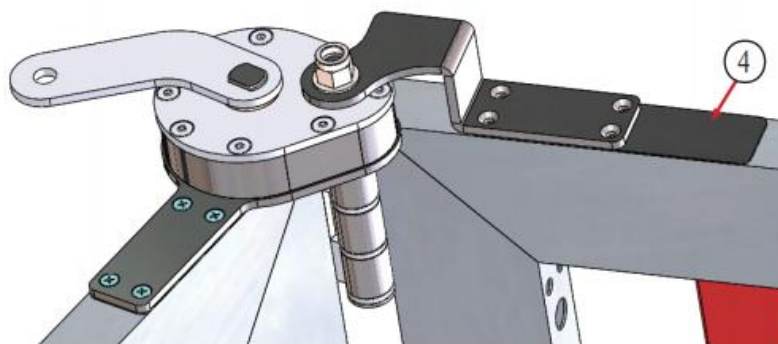
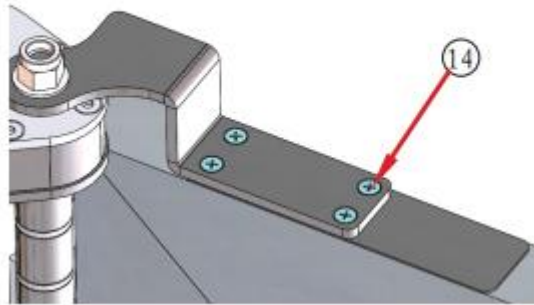

Fig 4
Fig 5
2. Install the folding door rotating mechanism ① and adjusting washer ④ on the 2nd door. See Fig 4 and Fig 5